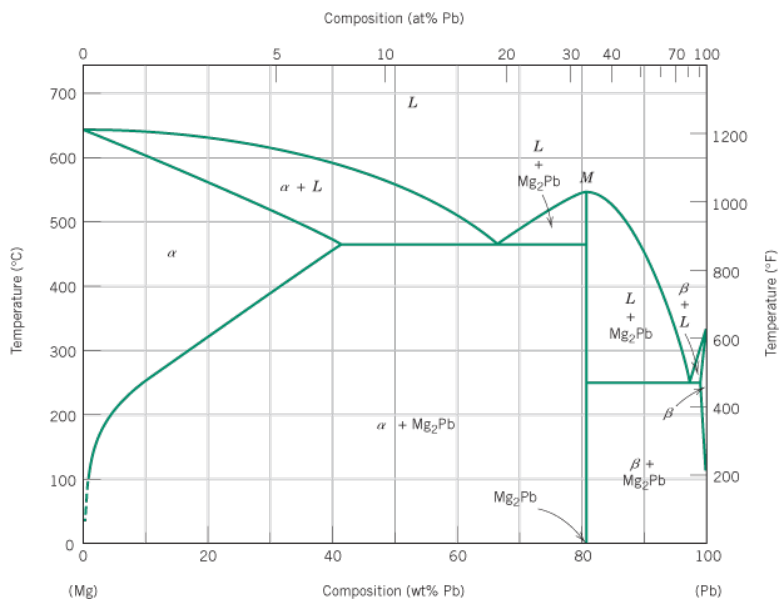

Figure 1.8: Mg-Pb phase diagram.
- 85) A 60 wt percent Pb-40 wt percent Mg alloy (see Fig. 1.8) is rapidly quenched to room temperature from an elevated temperature in such a way that the high-temperature microstructure is preserved. This microstructure is found to consist of the α phase and Mg_2Pb , having respective mass fractions of 0.42 and 0.58. Determine the approximate temperature from which the alloy was quenched.
- 86) For a 76 wt% Pb-24 wt% Mg alloy (see Fig. 1.8), make schematic sketches of the microstructure that would be observed for conditions of very slow cooling to the following temperatures: 575 °C, 500 °C, 450 °C, and 300 °C. Label all phases and indicate their approximate compositions.